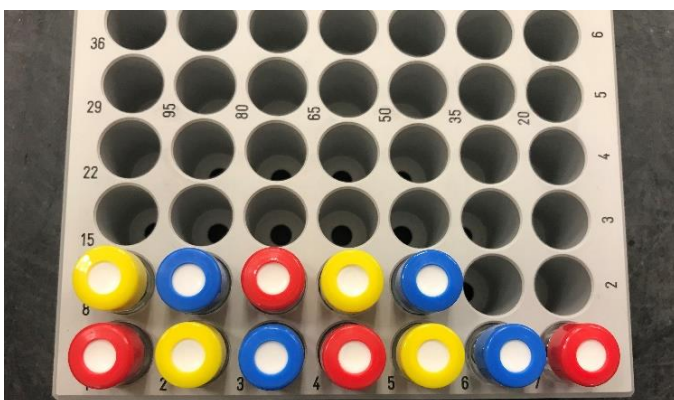
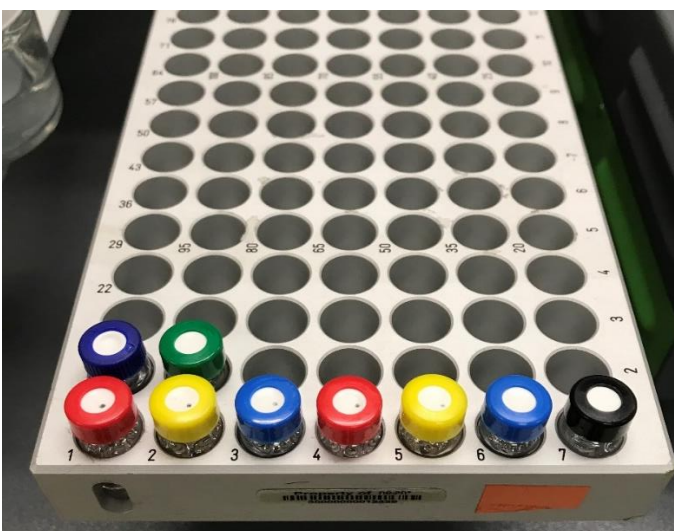

Figure 118. PICARRO H2O Analyzer Tray of 12 Validation Vials.
Figure 119. An Example of Two Trays containing Six Calibration and Three Calibration Validation Vials (9 Total).
The NEON headquarters (HQ) Calibration, Validation and Audit Laboratory (CVAL) provides vials of International Atomic Energy Agency traceable water standards for the PICARRO daily validation process and yearly calibration and validation process. Each process requires a specific set of vials: a tray of 12 vials for validation (see **Figure 118**), and a tray of nine vials for annual calibration (six vials for the calibration and three vials for the calibration validation in **Figure 119**) to all sites with exception of YELL, BONA, BARR and TOOL sites (see end of this section for information on these sites).
12 vials must be in the following order for validation (**Figure 118**):
Six vials must be in the following order for calibration (**Figure 119**):